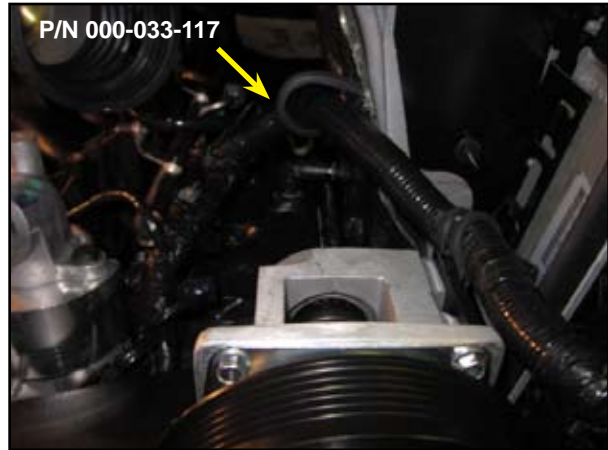

Figure 12. Install 1" Clamp and Route Larger Harness
16. Install the 1" clamp (P/N 000-033-117) and route the larger harness through the clamp as shown in Figure 12.